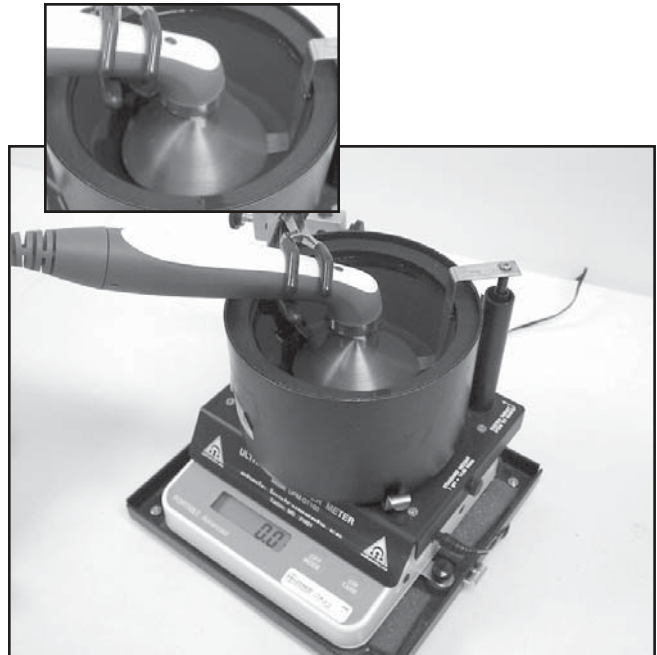

FIGURE 5.21
2. Place an Applicator into the Power Meter retainer. Make certain the Sound Head is completely submerged in the degassed water and centered directly over the Stainless Steel Cone. **See Figure 5.21.**